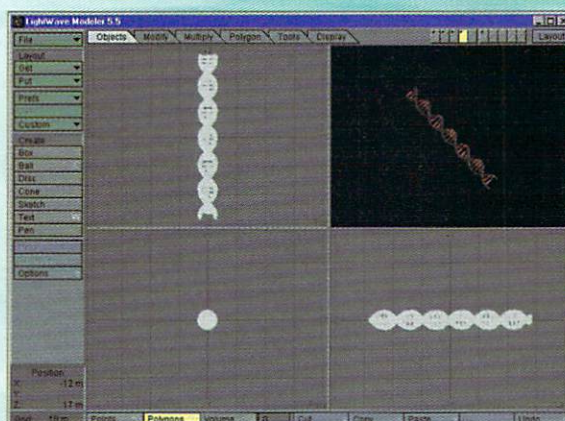

Figure 4
5. To clean up, we need to orient the object correctly along the z-axis. In the TOP VIEW, place your cursor on the origin and press [e]. Each press of [e] will rotate your object 90 degrees counterclockwise and it's far faster than using the rotation numeric requestor. We can center the object by selecting the Center macro in the Objects Custom menu. The final step in readying the DNA strand is to reduce its size by one-half. We do this in the size mode [shift - h] and using the numeric requestor [n]. Click Reset, then enter 50 for the Factor and click OK. If you press [a] at this point your display should look like Figure 4. Save the object [shift - s] in a place where you can find it and call it "DNA.lwo." Clear out Modeler [shift - n].